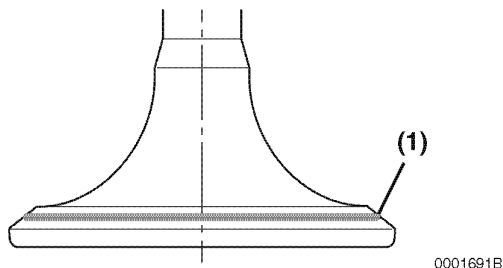

Figure 8-7
Coat the valve seat with a thin coat of bluing compound. Install the valve and rotate it to distribute bluing onto the valve face. The contact pattern should be centered on the valve face (**Figure 8-7, (1)**) and even in width.